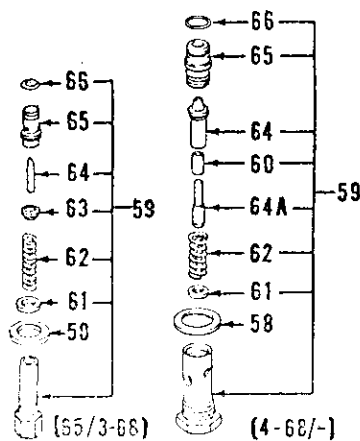

Fig. 376—Exploded view of early (65/3-68) and late (4/68 & up) hydraulic system relief valve for all models.
Refer to exploded view of pressure relief valve in Fig. 376 and unscrew the relief valve seat (65), then remove the valve (64), spring seat (63); or seal (60), guide pin (64A), and spring (62). Add one shim to shim stack (61) to increase relief valve setting or remove a shim to decrease setting; a difference in shim stack thickness of 0.010 should change relief valve setting approximately 100 psi. CAUTION: Measure total shim stack thickness and do not install a total thickness of more than 0.080. Shims are available in thicknesses of 0.010, 0.015 and 0.025. Reassemble the relief valve, reinstall with new "O" ring (66) and recheck pressure.